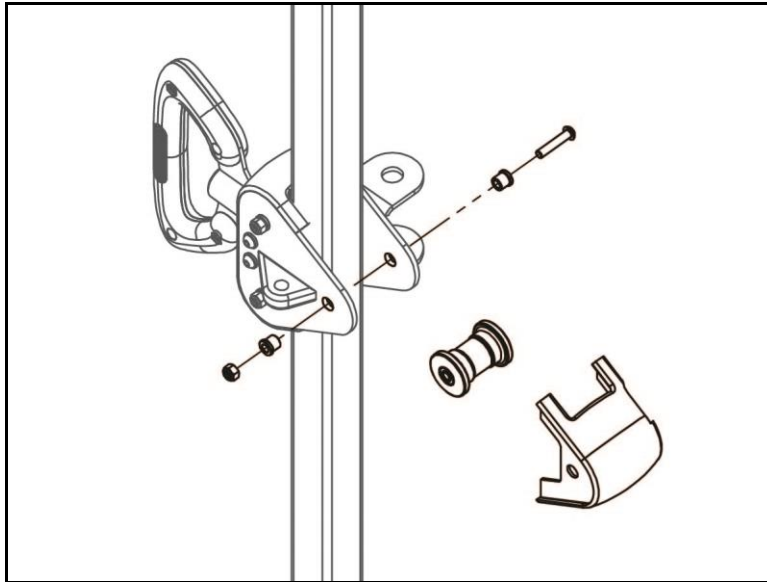

Fig. 5
- Using a 10mm wrench and a 4mm hex key – remove the rearmost roller securing hardware to slide off the rear cap and roller (Fig. 5).